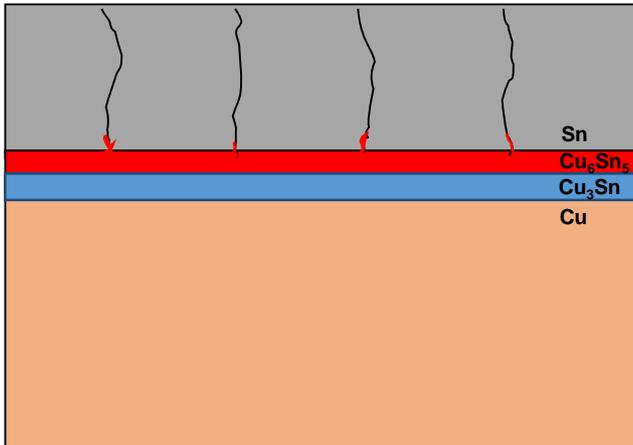

Figure 5: Formation of Cu_3Sn by annealing
- Make a heat treatment, within 24 h after plating, at higher temperatures $>60 \text{ }^\circ\text{C}$ (preferred 1 h at $150 \text{ }^\circ\text{C}$). A Cu_3Sn layer is formed out of and below Cu_6Sn_5 phase acting as a barrier layer for further migration of Cu_6Sn_5 (see figure 5). The Cu_3Sn has lower molecular volume and will not add to stress in the tin layer. As the bulk diffusion is predominant in higher temperatures, a regular double layer is formed. The tendency to move into the grain boundaries is lower, as with the thickness of the barrier layers copper movement is reduced.